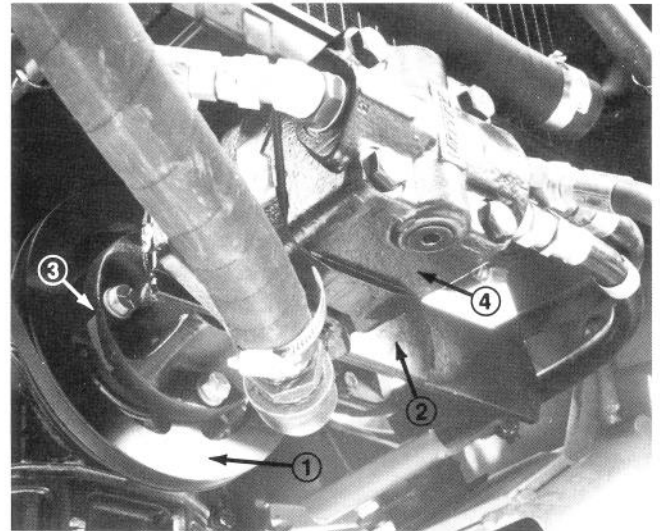

Figure 101
The hydraulic pump is coupled directly to the front crankshaft pulley (Fig. 101), and is equipped with a flow divider valve to operate both the frame hydraulic system and the tractor power steering system.
2. Remove the capscrew and locknut from the end of the torque arm and the three hub mounting capscrews from the crankshaft pulley (Fig. 101) and remove the pump.